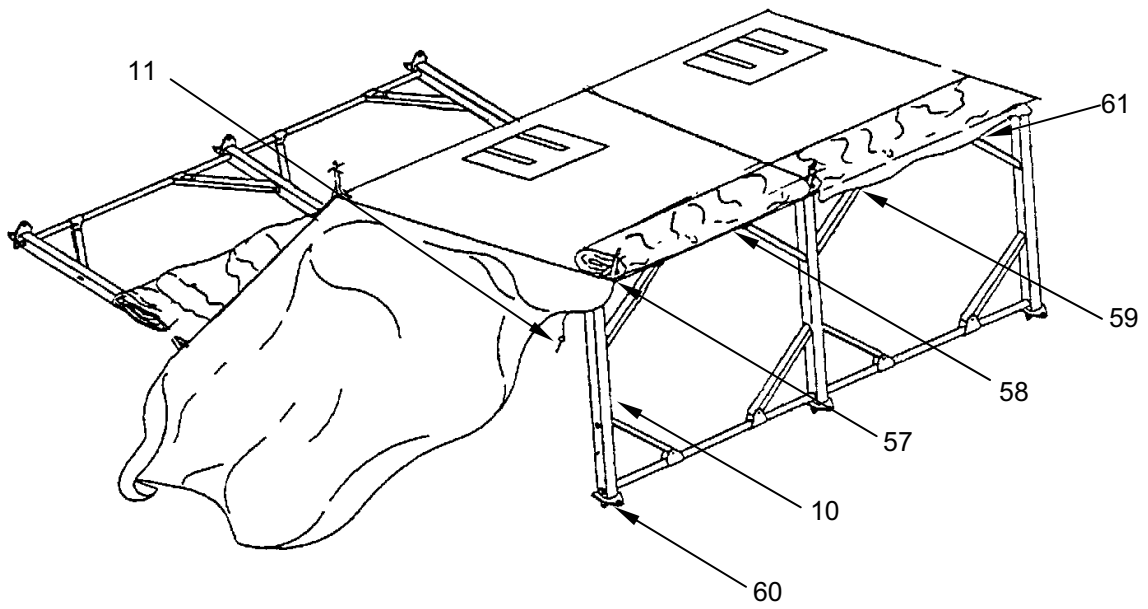

Figure 35. Fully Erecting the Frame.
4. Step in next to the eave gusset (**Figure 35, Item 57**).
5. Place one hand on the side arch assembly (**Figure 35, Item 10**) and one hand on the eave purlin (**Figure 35, Item 58**) outside the diagonal brace (**Figure 35, Item 59**).
7. Lift frame straight up to shoulder height, dragging side arch assembly (**Figure 35, Item 10**) inward.
8. Place weight of the frame on side arch assembly foot (**Figure 35, Item 60**).
9. Align holes of eave gusset (**Figure 35, Item 57**) and side arch assembly (**Figure 35, Item 10**) and install quick release pin (**Figure 35, Item 11**). Identify purlin flap (**Figure 35, Item 61**) on interior of window/roof section.
10. Secure purlin flap (**Figure 35, Item 61**) to frame at eave purlin (**Figure 35, Item 58**) using hook and pile fasteners.